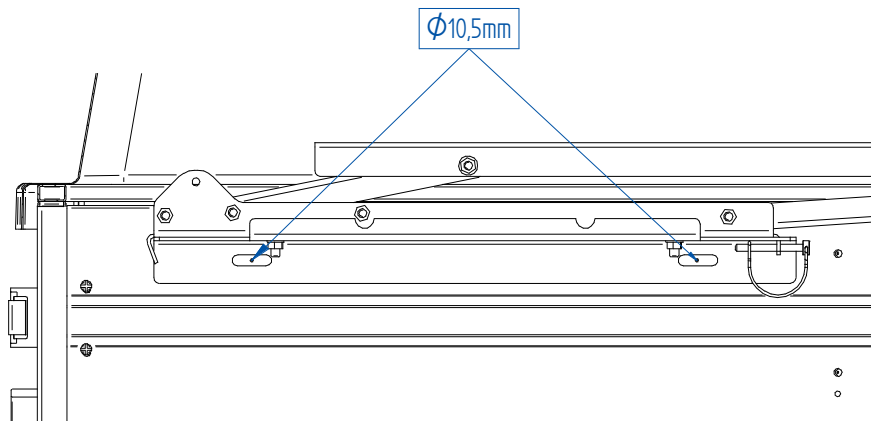

Figure 14
12. Through the open front hatch align upper and lower hinge part so that they are parallel and make sure the markings are in the center of the oval cutouts **(figure 14)**.